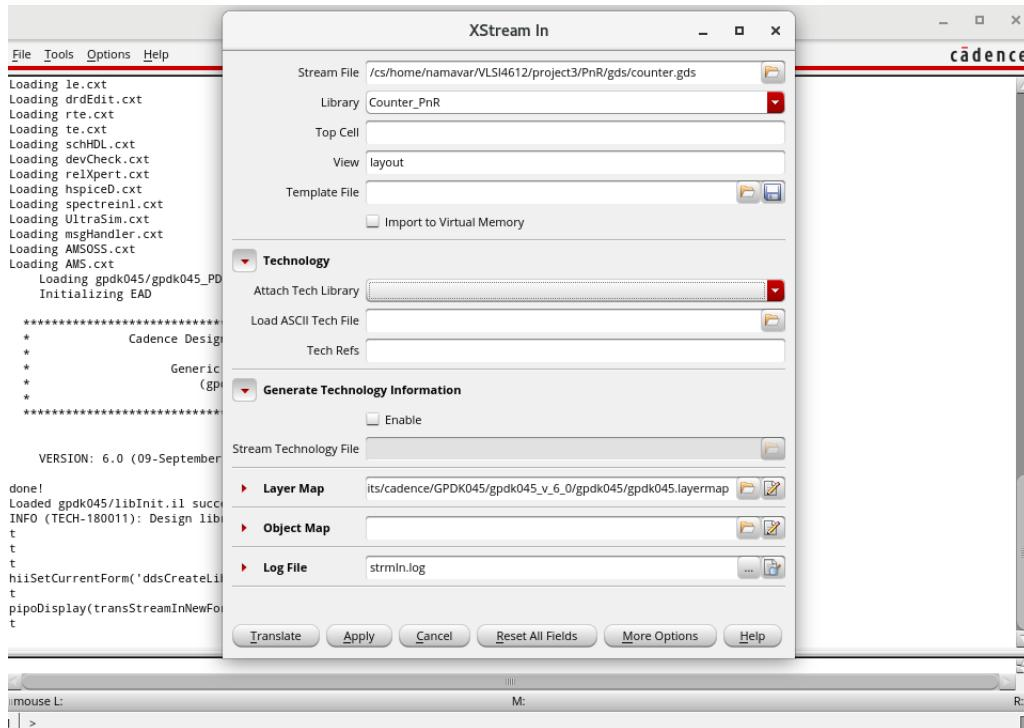

Figure 32: XStream In window for GDSII import in Virtuoso.
2. The **XStream In** window will appear, as shown in Figure 32.